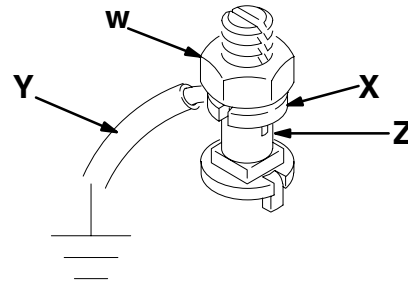

Fig. 2
1. *Pump*: connect a ground wire and clamp to a true earth ground as shown in Fig. 2.
- a. Loosen the grounding lug locknut (W) and washer (X).
- b. Insert one end of a 1.5 mm² (12 ga) minimum ground wire (Y) into the slot in lug (Z) and tighten the locknut securely.